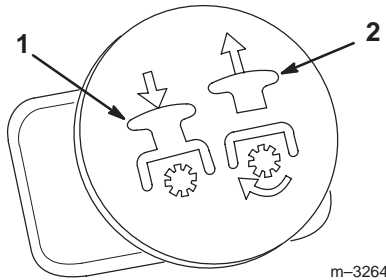

Figure 14
3. Pull the PTO switch to the on position (Fig. 14).